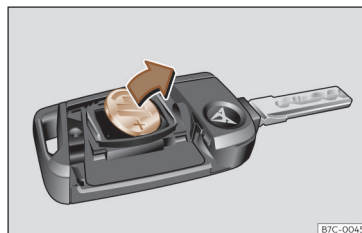

Fig. 68 Vehicle key: removing the battery.
- Extract the battery from the compartment using a suitable thin object»» Fig. 68 .
- Place the new battery in the compartment as shown»» Fig. 68 , pressing in the opposite direction to that shown by the arrow »» ❶.